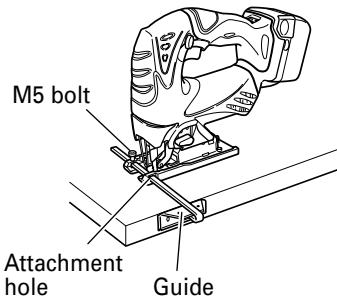

Fig. 18
- (3) Attach the guide by passing it through the attachment hole on the base and tighten the M5 bolt. (Fig. 18)
- (4) Set the orbital position to "0".
To ensure accurate cutting when using the guide (Fig. 18), always set the orbital position to "0".